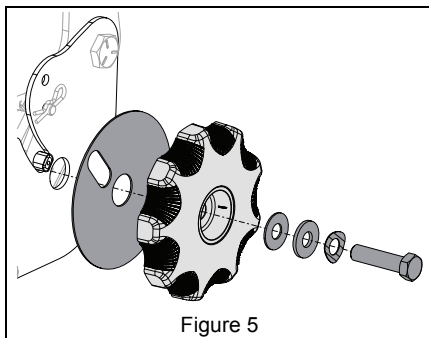

Figure 5
- d. Remove backrest angle dial and hardware from literature pack around seat belt and secure dial to seat. See Figure 5.